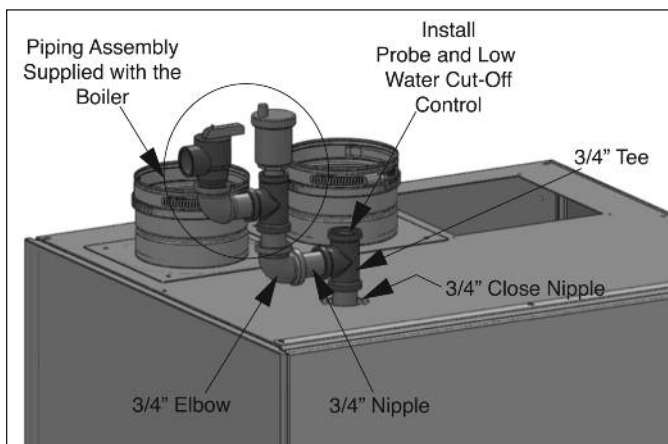

Fig. 27: Low Water Cut-Off Installation
5. The standard field installed air vent and pressure relief valve configuration will need to be repositioned, see Figure 27.
9. The standard field installed air vent and pressure relief valve configuration (supplied with the boiler) should be installed in the top of elbow, see Figure 27.